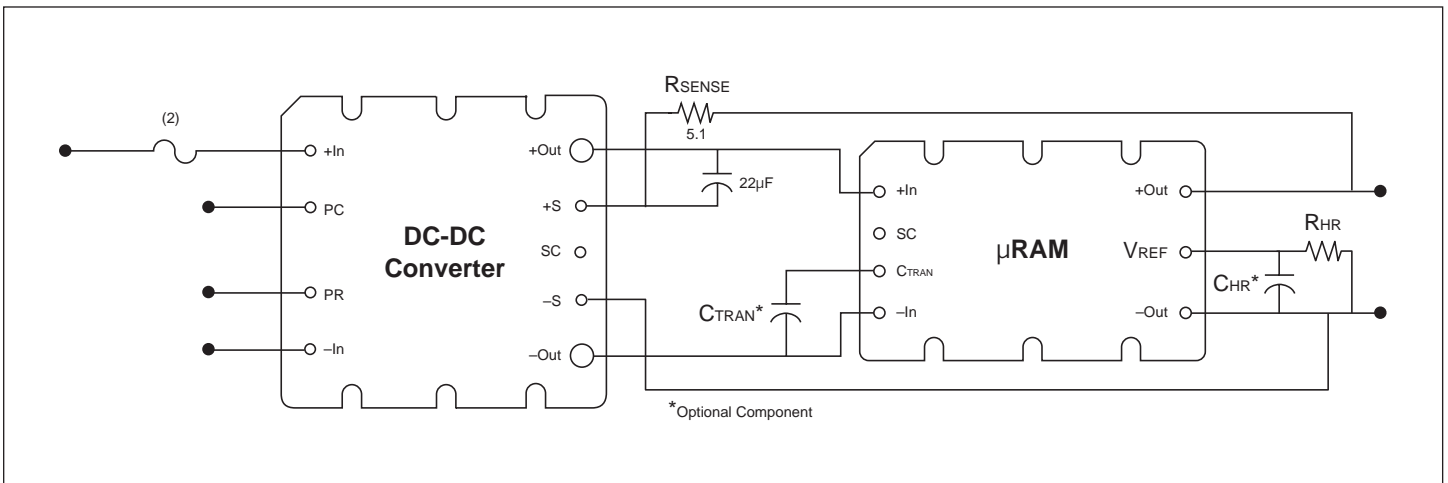

Figure 1—Typical Configuration using Remote Sensing
The MicroRAM has an internal passive filter that effectively attenuates ripple in the 50kHz to 1MHz range. An active filter provides attenuation from low frequency up to the 1MHz range. The user must set the headroom voltage of the active block with the external  $R_{HR}$  resistor to optimize performance. The MicroRAM must be connected as shown in Figures 1 or 2 depending on the load sensing method. The transient load current performance can be increased by the addition of optional  $C_{TRAN}$  capacitance to the  $C_{TRAN}$  pin. The low frequency ripple attenuation can be increased by addition of optional  $C_{HR}$  capacitance to the  $V_{REF}$  pin as shown in Figures 3a and 3b, on p. 5.
**Figure 3a, 3b**—Curves demonstrating the small signal attenuation performance as measured on a network analyzer with a typical module at (a) 28V and 10A output and (b) 5V and 10A. The low frequency attenuation can be enhanced by connecting a 100μF capacitor, CHR, to the VREF pin as shown in Figures 1 and 2.
**Figure 9**—V375A28C600A and μRAM; Input and output dynamic response no added CTRAN; 20% of 20A rating load step of 4A (10A ⇒ 14A); RHR=178k (Configured as in Figs. 1 & 2)
**Figure 10**—V375A28C600A and μRAM; Input and output dynamic response CTRAN=820μF Electrolytic; 32.5% of load step of 6.5A (10A ⇒ 16.5A); RHR=178k (Configured as in Figs. 1 & 2)
**Figure 12**—V300B12C250A and μRAM; Input and output dynamic response no added CTRAN; 17.5% of 20A rating load step of 3.5A (10A →13.5A);RHR=80k (Configured as in Figs. 1 & 2)
**Figure 13**—V300B12C250A and μRAM; Input and output dynamic response CTRAN=820μF Electrolytic; 30% of load step of 6A (10A →16A);RHR=80k (Configured as in Figs. 1 & 2)
**Figure 15**—V48C5C100A and μRAM; Input and output dynamic response no added CTRAN; 22.5% of 20A rating load step of 4.5A (10A →14.5A);RHR=31k (Configured as in Figs. 1 & 2)
**Figure 16**—V48C5C100A and μRAM; Input and output dynamic response CTRAN=820μF Electrolytic; 35% of load step of 7A (10A →17A);RHR=31k (Configured as in Figs. 1 & 2)